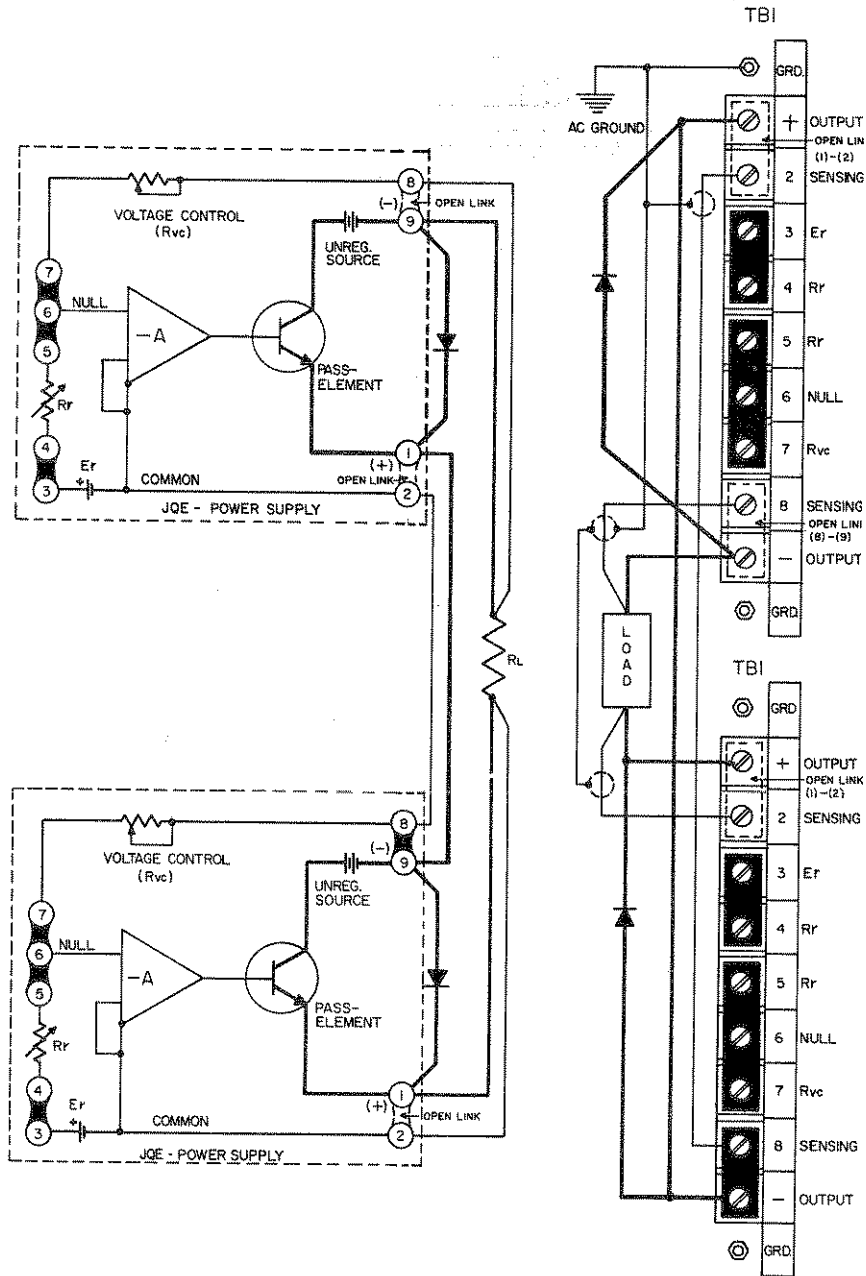
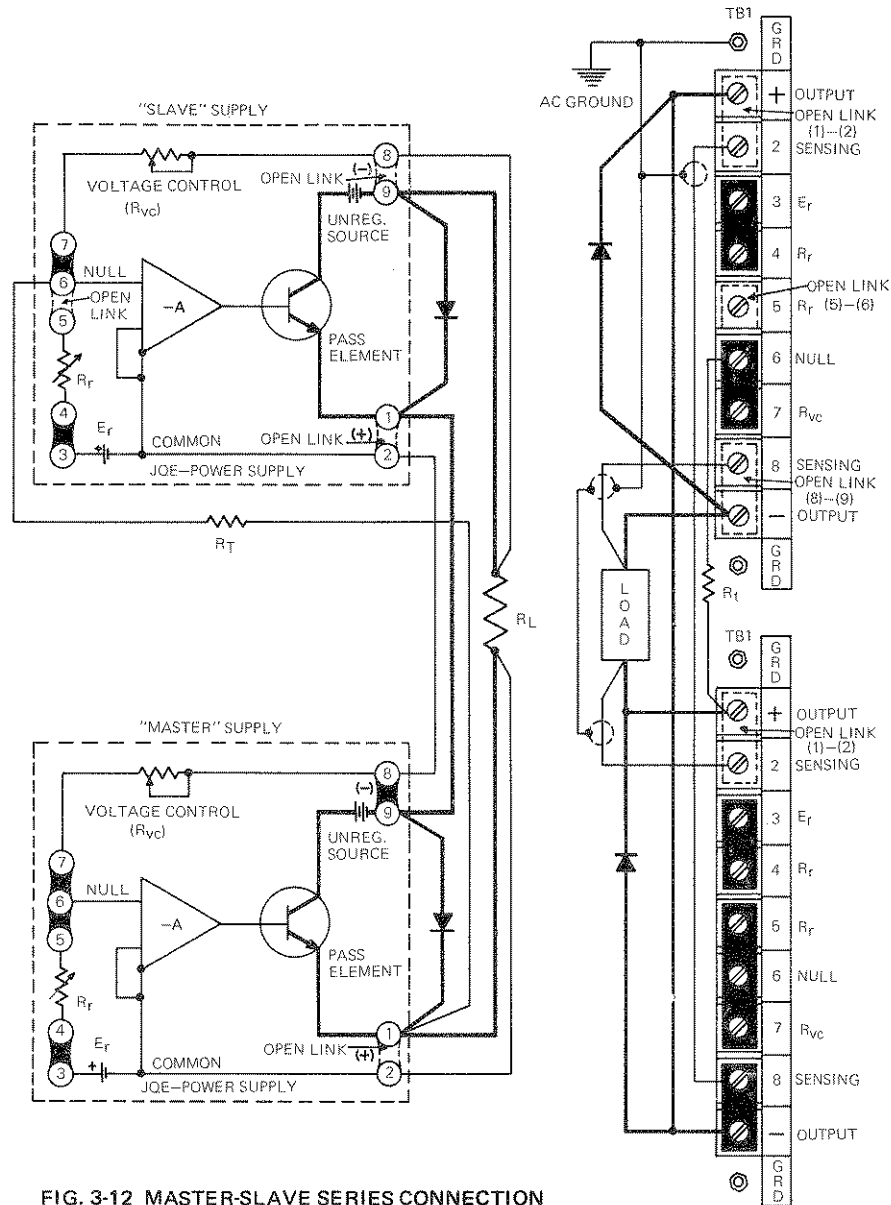

FIG. 3-11 AUTOMATIC SERIES CONNECTION OF JQE POWER SUPPLIES
FIG. 3-12 MASTER-SLAVE SERIES CONNECTION OF JOE POWER SUPPLIES
3-35 General. Kepco JOE Power Supplies can be series-connected for increased voltage output, provided the specified limits on voltage to chassis are not exceeded. When series-connected, the supplies should be protected by means of a semi-conductor diode across the output terminals of each power supply, as shown in FIG. 3-11. The peak inverse rating of these diodes must be at least as large as the output voltage of the supply to which they are connected. The continuous current rating of the diodes should be at least as great as the largest short-circuit current of the interconnected supplies.
- a) Connect load as shown in FIG. 3-11. Keep voltage drop in load wires as low as practical by using heavy gauge wire.
3-37 An alternate method of series connecting two or more power supplies is shown in FIG. 3-12. The basic difference between the "Automatic" series connection, shown in FIG. 3-11, and the "Master-Slave" connection (FIG. 3-12) is that with the former connection the outputs of both supplies may be controlled or programmed individually, while with the latter method only the "Master" supply is controlled while the "Slave" supplies follow the command of the "Master" in a ratio which may be pre-determined by the user. The "Master-Slave" series connection is therefore often termed an "Automatic Tracking" configuration.
As seen from FIG. 3-12, the reference voltage of the "Slave" supply is disconnected and its input (null junction) is connected to the output of the "Master" supply. Since the control current for the "Slave" supply is thereby derived from the "Master", the "Slave" output is thus completely dependent on the "Master" supply output:
As seen from the equation, if the tracking resistor ( $R_t$ ) is made equal in value to the voltage control resistor of the "Slave" ( $R_{Vcs}$ ), a tracking ratio of 1:1 is achieved, and the output of the "Slave" will equal that of the "Master". If a single load is connected to the series combination (FIG. 3-12), twice the "Master" output is applied to it, if separate loads are connected, identical voltages are applied to the individual loads. The ratio  $E_{Os}/E_{Om}$  can be readily changed if the application so requires by simply changing either  $R_{Vcs}$  or  $R_t$ .
- Connect load(s) as shown in FIG. 3-12.